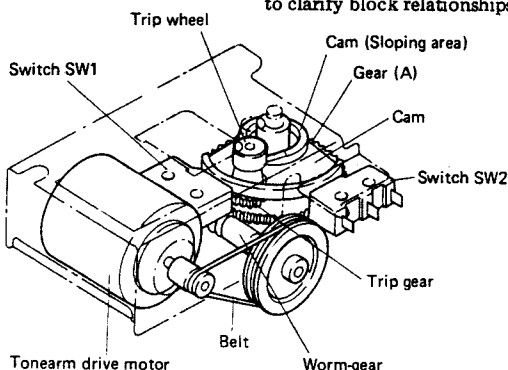

Fig. 4-1 Tonearm drive mechanism
1. The tonearm drive mechanism consists of the tonearm drive motor, worm-gear, gear (A), gear (B), trip gear, trip wheel, cam, switch SW1, and switch SW2. (Fig. 4-1)